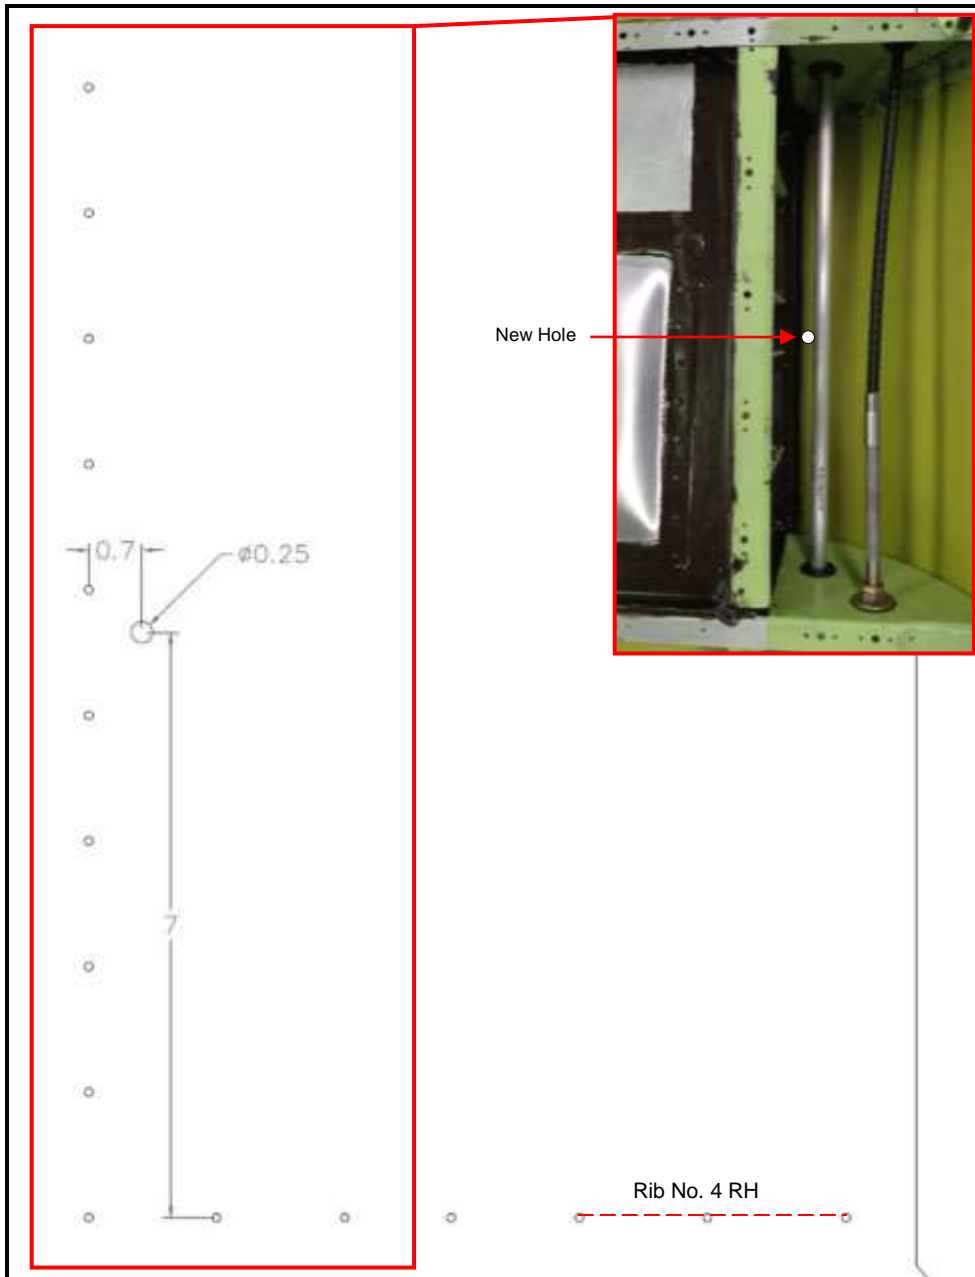

Figure 7: Hole 5
12. Drill ¼ in. hole through bottom skin located outboard of sump tank, between no. 3 RH rib (GA8-532023-253) and no. 4 RH rib assembly (GA8-532013-071), Figure 7.